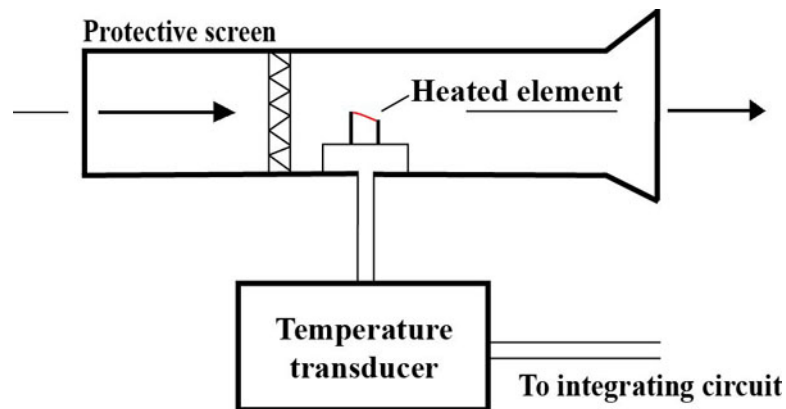

Figure 2–18. Heated-wire flow sensor.
- **Ultrasonic** – This type uses a principle called vortex shredding. It is a tube with struts, which look like airplane wings, placed within the path of flow. As gas flows over the struts, it is disturbed and broken up into waves called vortices. An ultrasonic crystal downstream of the strut transmits high-frequency sound waves across the gas flow to a receiving crystal on the opposite side of the tube (fig. 2–19). Each vortex passing through the ultrasonic beam produces a pulse. Each pulse is proportional to specific volume. The unit counts and sums the pulses electronically providing a measurement of volume.